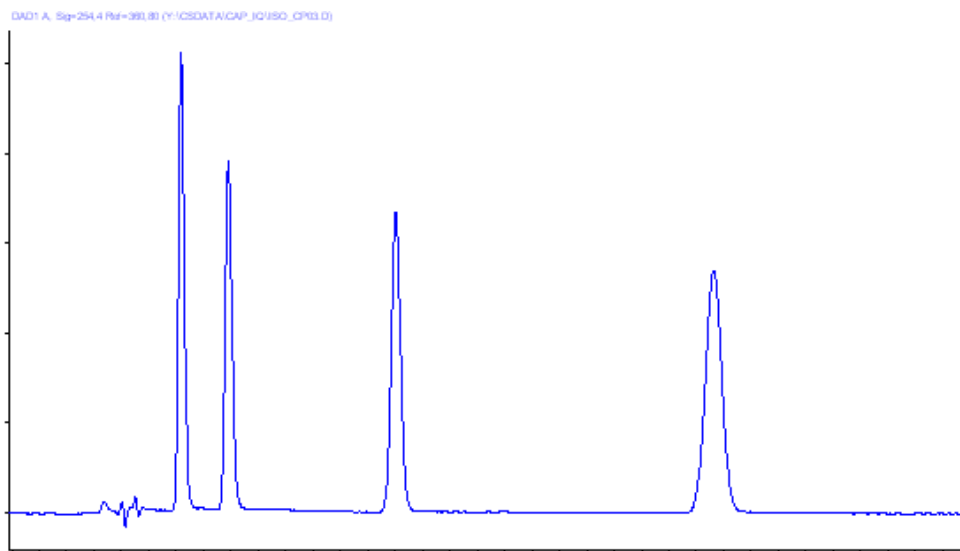

Figure 11 Chromatogram
- 2 Compare the resulting chromatogram with the typical chromatogram shown in Figure 11 on page 57.
A typical chromatogram for this analysis is shown in Figure 11 on page 57. The exact profile of the chromatogram will depend on the chromatographic conditions. Variations in solvent quality, column packing, standard concentration and column temperature will all have a potential effect on peak retention and response.